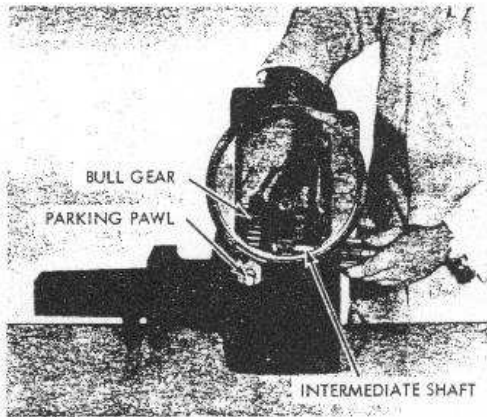

Figure 15
Unscrew parking pawl assembly bushing (20), remove gasket (21) and parking pawl (24). Replace O-rings (23 and 22) and gasket (21), if necessary. When re-assembling grease O-rings and gaskets, torque hex bushing (20) to 40 ft. lbs. (Fig. 15 and 17).